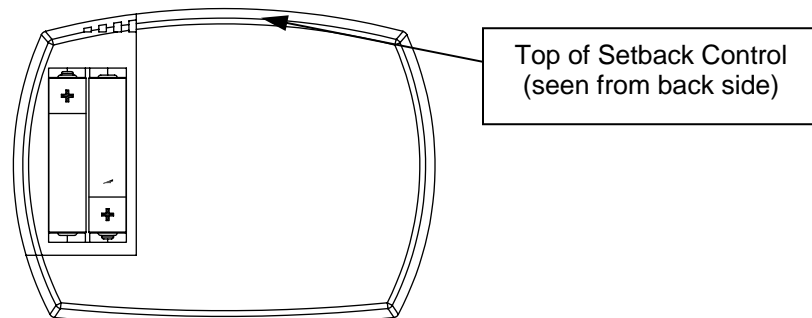

Figure 32
Step 4: Replace the two batteries with (2) AAA batteries. The batteries should be oriented, as shown in Figure 32.